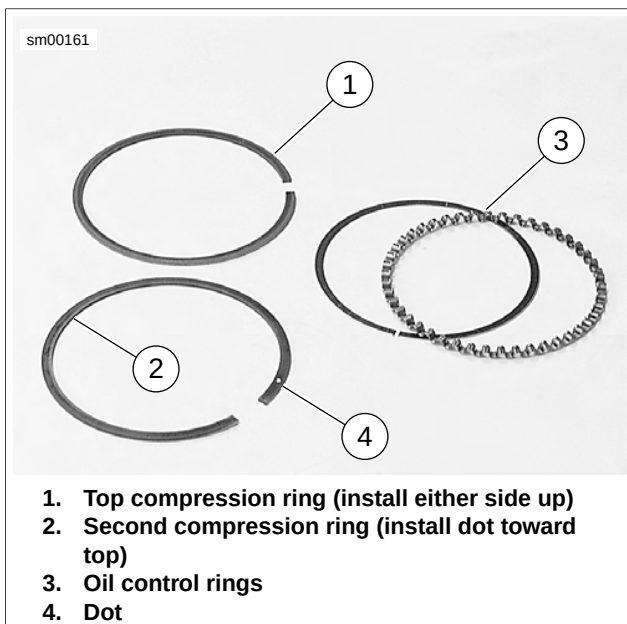

Figure 3-77. Piston Rings
See Figure 3-77. Piston rings are of two types: compression (1, 2) and oil control (3). The two compression rings are positioned in the two upper piston ring grooves. The dot (4) on the second compression ring must face upward.